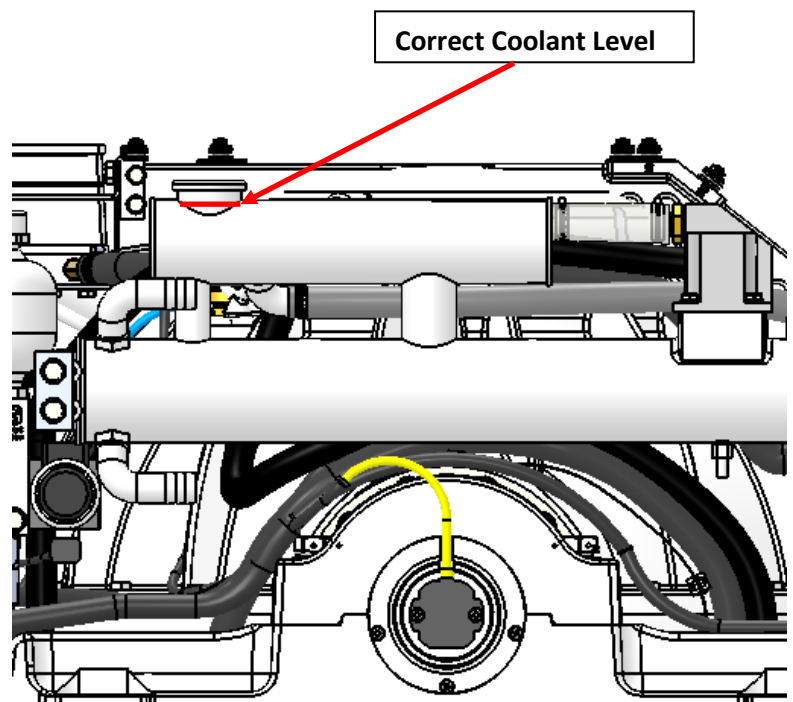

FIGURE 3 – SEAKEEPER 5 COOLANT LEVEL
- 3) Remove pressure cap on top of reservoir. Pour mixture in until level reaches top of clear tube between thermostatic valve and reservoir as shown in Figure 3. Filling reservoir above this level will not cause any damage but coolant may be expelled from pressure relief port below cap due to normal thermal expansion of coolant.
- Recheck glycol level with fluid circulating in coolant circuit. Sight down inside reservoir and check that coolant level is above upper port on reservoir as shown in Figure 3. Replace cap.